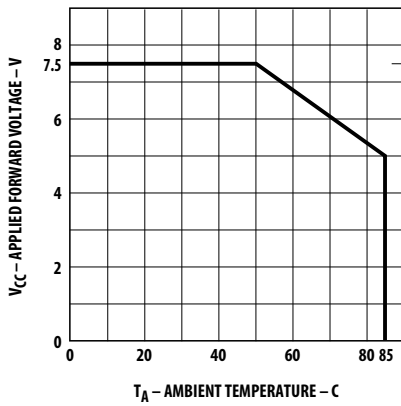

Figure 3. Maximum allowed applied forward voltage vs. ambient temperature $R\theta_{JA} = 175^{\circ}\text{C}/\text{W}$. 5 volt devices.
- Derate from T_A = 50°C at 0.071 V/°C, see Figure 3.